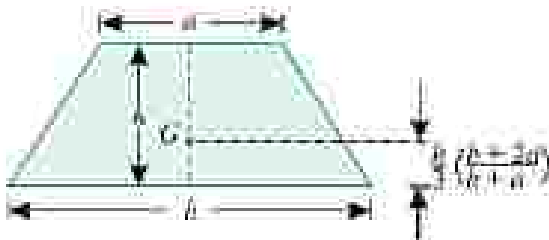

Fig. 6.3. Trapezium
4. The centroid of a trapezium with parallel sides a and b is at a distance of $\frac{h}{3} \times \left(\frac{b+2a}{a+b} \right)$ measured from the side b as shown in Fig. 6.3.